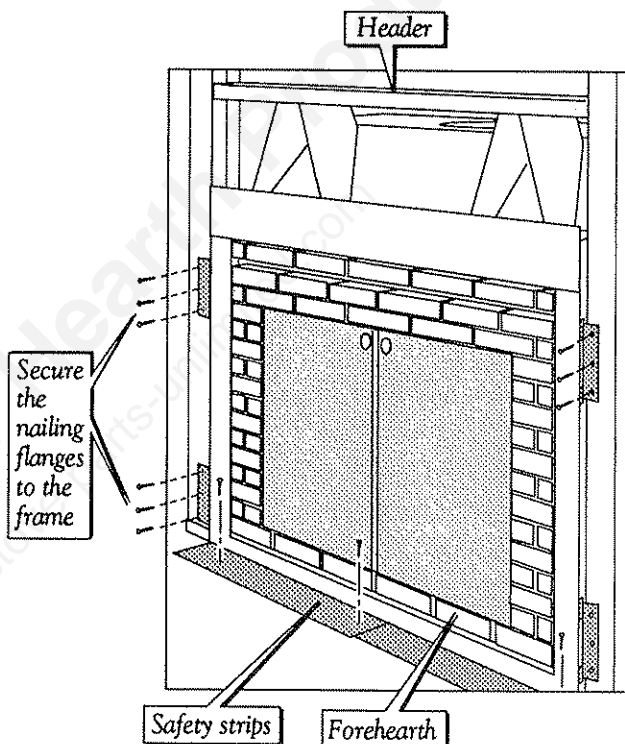

Figure 21. Secure each nailing flange to a frame member.
Step 3. Place the two steel safety strips provided beneath the fireplace front. Figure 21. The strips should overlap and be positioned to extend to the front and sides of the fireplace. Nail or screw the strips into place. Safety strips are not necessary if the fireplace is installed on a concrete slab or other non combustible floor.
Step 5. Use 8D nails to secure the fireplace to the framing through the sidewall nailing flanges. Figure 21.
Step 13. Determine the height of the chimney above the roof. Figure 21 illustrates the 3/2/10 rule. The rule specifies that the chimney top must be at least 3' higher than the highest point where it passes through the roof, *and* must be at least 2' higher than any point on the roof that is within 10' of the chimney as measured horizontally.